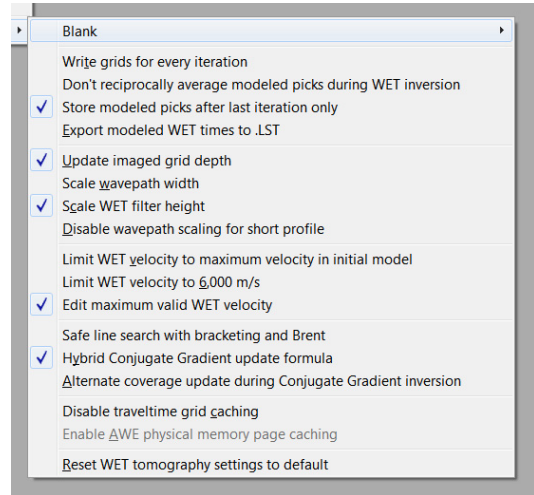

Fig. 10 : WET Tomography Settings
- Setup other settings in *WET Tomo|WET tomography Settings* as in Fig. 10